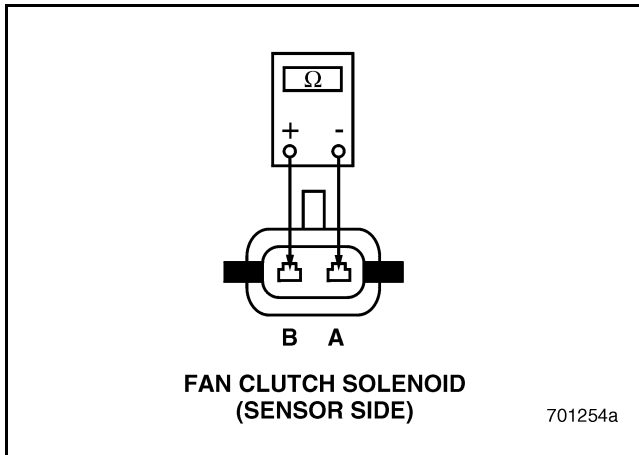

Figure 464
3. If the vehicle is equipped with an on/off fan clutch, check for continuity between the terminals of the Fan Clutch Solenoid (see Figure 464).